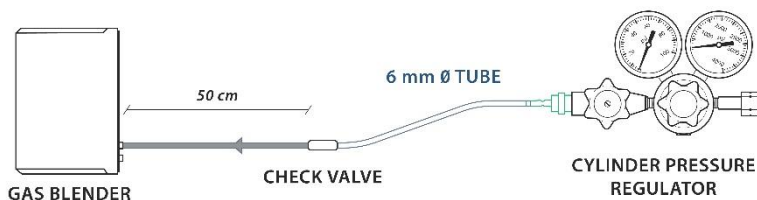

Figure 3
- 3. Check valves (Only for CO₂)** - Install the Check valve (provided in the package) along the gas line of CO₂ gas source in use. In order to do so, take the free end of the tube previously connected to the pressure regulator and insert it in the check valve through the push-in connector. Check valves allows the gas to flow through them in only one direction. Therefore, the check valves must be installed in the direction of flow sense, i.e. form the cylinder to the Gas blender (Fig. 3). In case of different valves type use, please contact the MCQ INSTRUMENTS support center.